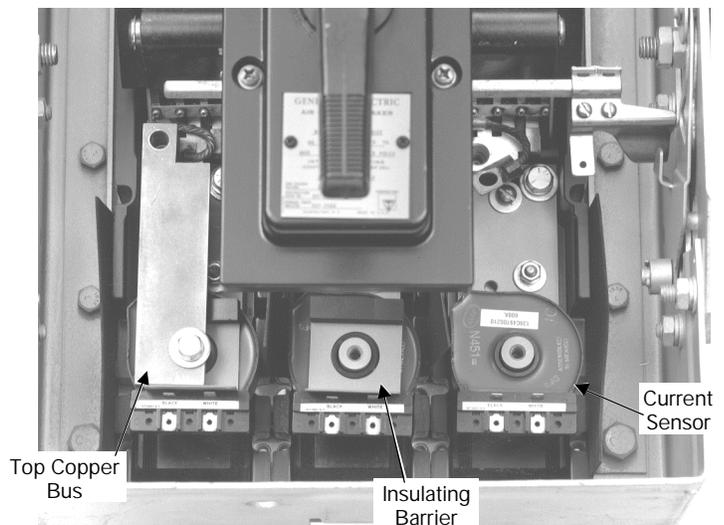

Figure 6. CT assembly.
5. Place the CT, insulating barrier, and top copper bus over the copper CT post. Secure the bus with the 5 16-18 x 1" bolt, flat washer, and lock washer provided, as shown in Figure 6.